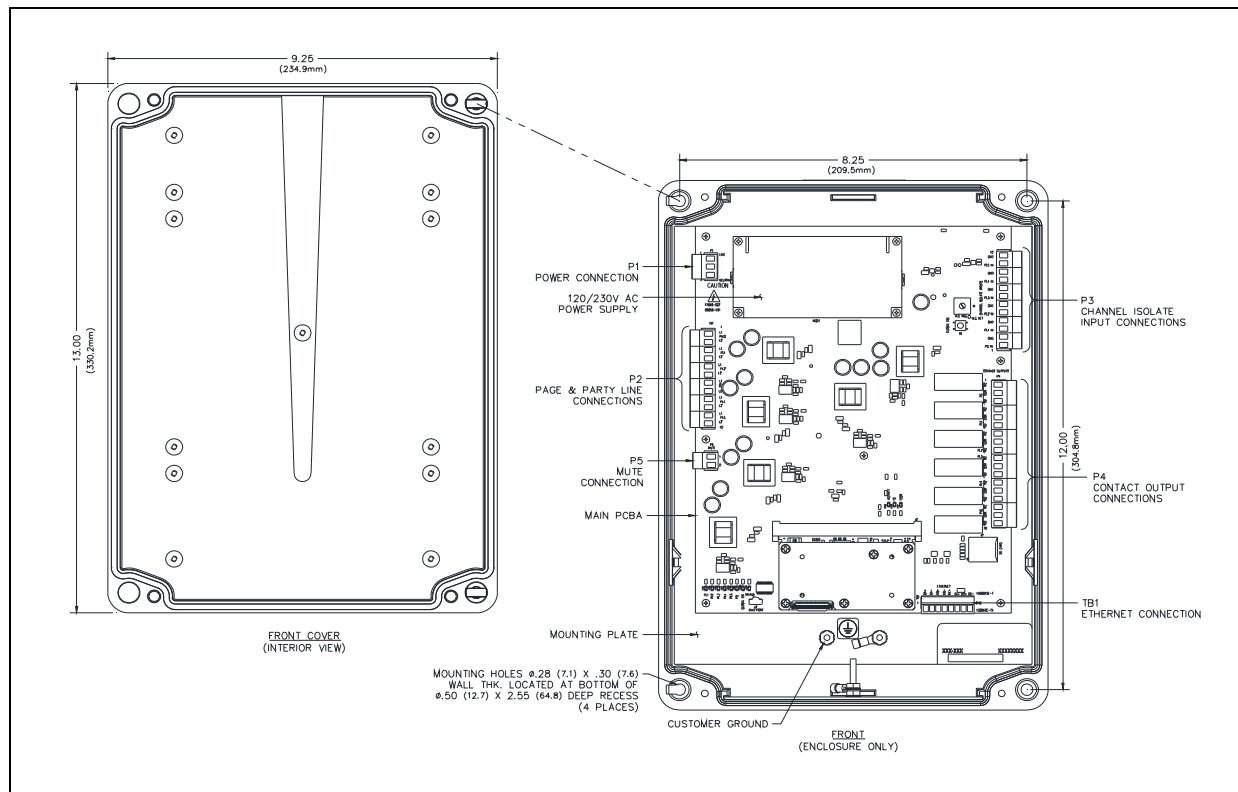

Figure 2. Model 370-901 SP2 to Page/Party® Bridge
3. Secure the ground conductor to the CUSTOMER GROUND lug located in the bottom of the rear enclosure (see Figure 2).